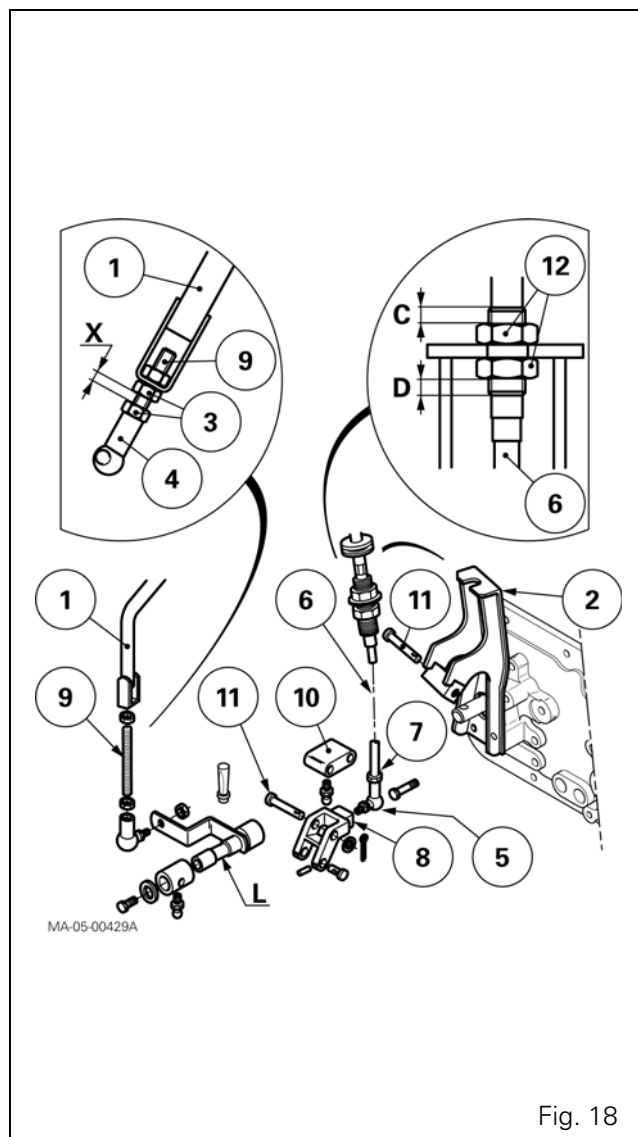

Fig. 18
Preparation (Fig. 18)
Assembly (Fig. 18)
81. Tighten and lock the other end of the ball joint (5) onto the cam (8).
82. On the previously fitted support (2) and lever "L", position the cam (8) and its extension block (10). Fit the pins (11), and lock them in place with new pins.
83. Fit the ball joint (4) on the lever L. Fit the washer and tighten the locknut.
Adjusting the rod (1) (Fig. 18)
84. Turn the threaded rod (9) and ball joint (4) to obtain a dimension X of $17 \pm 1 \text{ mm}$ between the two nuts (3) when they are tightened.
Adjusting the cable (6) (Fig. 18)
85. Adjust the sheath end to balance (as far as possible) dimensions "C" and "D". Tighten the nuts (12) without altering the adjustment.
The lever is positioned incorrectly. Readjust the rod (1) (Fig. 18) on the selector cover plate side in accordance with the following instructions:
- If the problem concerns the 1st or 3rd gear (Fig. 19), reduce dimension X (Fig. 18).
- If the problem concerns the 2nd or 4th gear (Fig. 19), increase dimension X (Fig. 18).
- If the problem concerns lateral movement of the lever between the 1-2 and 3-4 gear paths (Neutral position) (Fig. 20), adjust the cable sheath end (6) (dimensions C and D) (Fig. 18). Tighten the nuts (12).